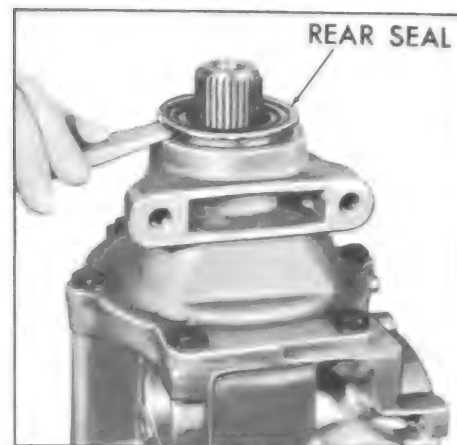

Figure 5-532
1. If necessary to replace, pry the rear oil seal from the extension housing. See Figure 5-532.